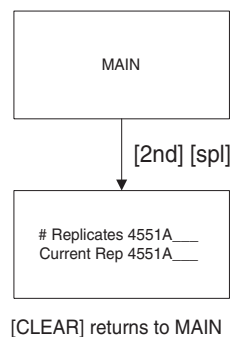

Figure 4.10. Model 4560 Replicate Menu
1. From the main menu, press **2nd** and **REP** to access the Replicate menu, depicted in Figure 4.10.